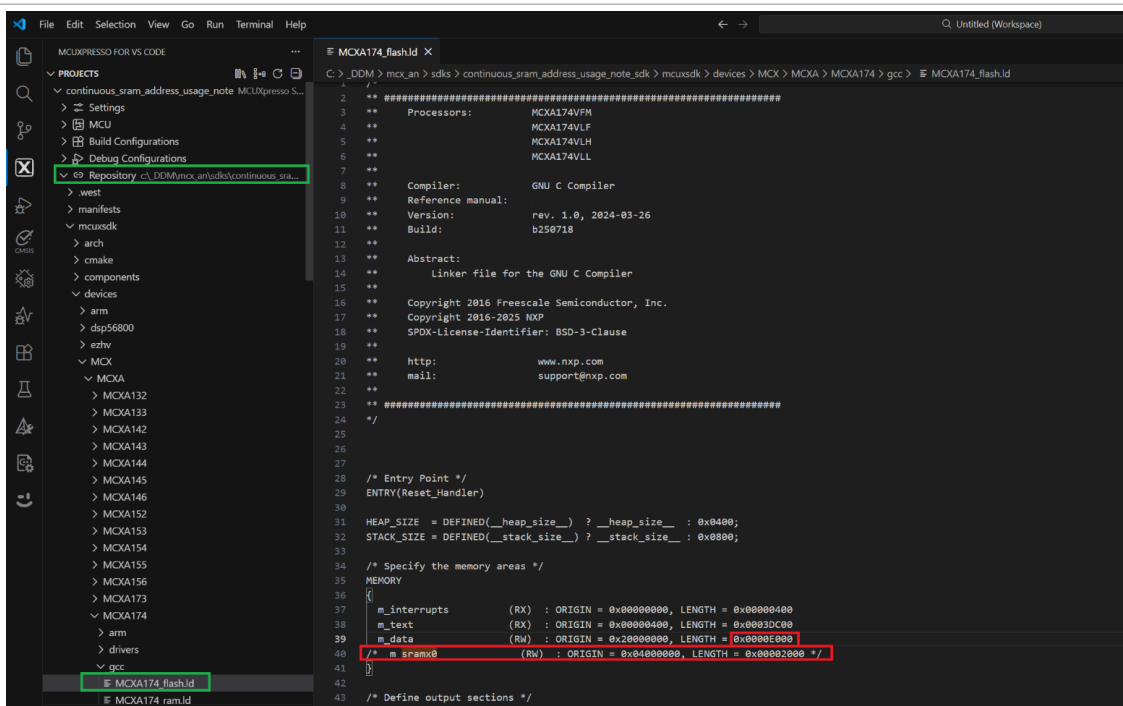

Figure 2. MCX A174 SRAM settings in MCUXpresso for VSC
- For MCX A174, as shown in Figure 2: